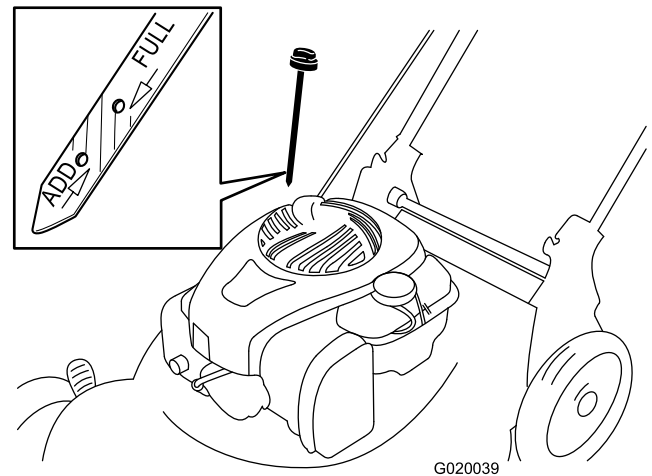

**Figure 16**
2. Tip the machine onto its side, with the dipstick down, then remove the dipstick to drain the used oil out through the oil-fill tube (Figure 16).